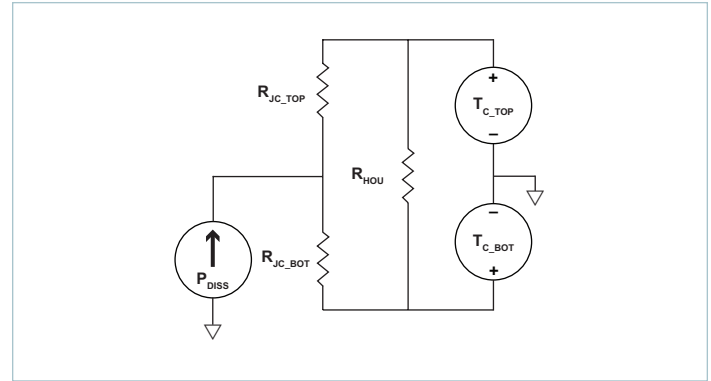
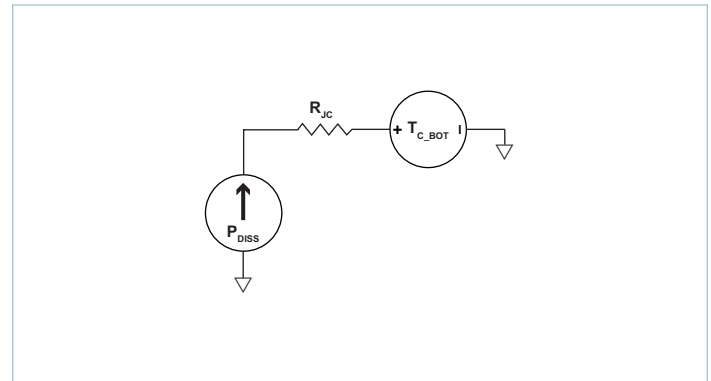

Figure 21 — Double sided cooling VIA thermal model
Figure 22 — Single-sided cooling VIA thermal model
two surfaces are cooled is a key component for determining the maximum power that can be processed by a VIA, as can be seen from specified thermal operating area on Page 5. Since the VIA has a maximum internal temperature rating, it is necessary to estimate this internal temperature based on a system-level thermal solution. To this purpose, it is helpful to simplify the thermal solution into a roughly equivalent circuit where power dissipation is modeled as a current source, isothermal surface temperatures are represented as voltage sources and the thermal resistances are represented as resistors. Figure 21 shows the “thermal circuit” for the VIA module.
- Single side cooling: the model of Figure 21 can be simplified by calculating the parallel resistor network and using one simple thermal resistance number and the internal power dissipation curves; an example for bottom side cooling only is shown in Figure 22.